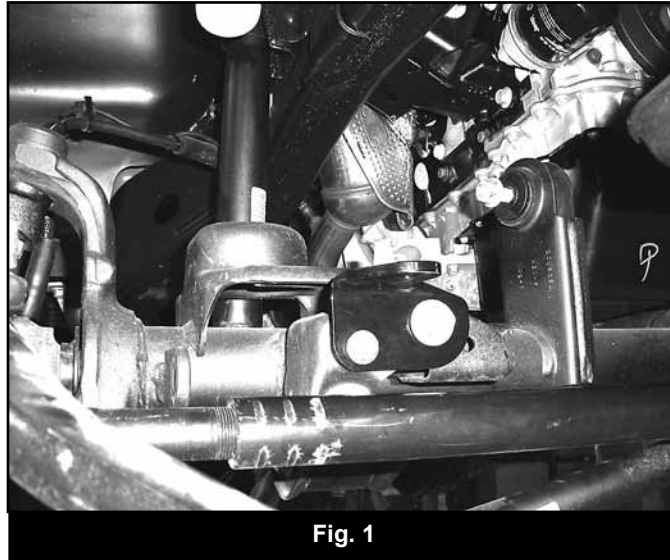

Fig. 1
7. Attach remaining hole with 3/8" x 1-1/4" bolt with washers and nut. (Fig 1)